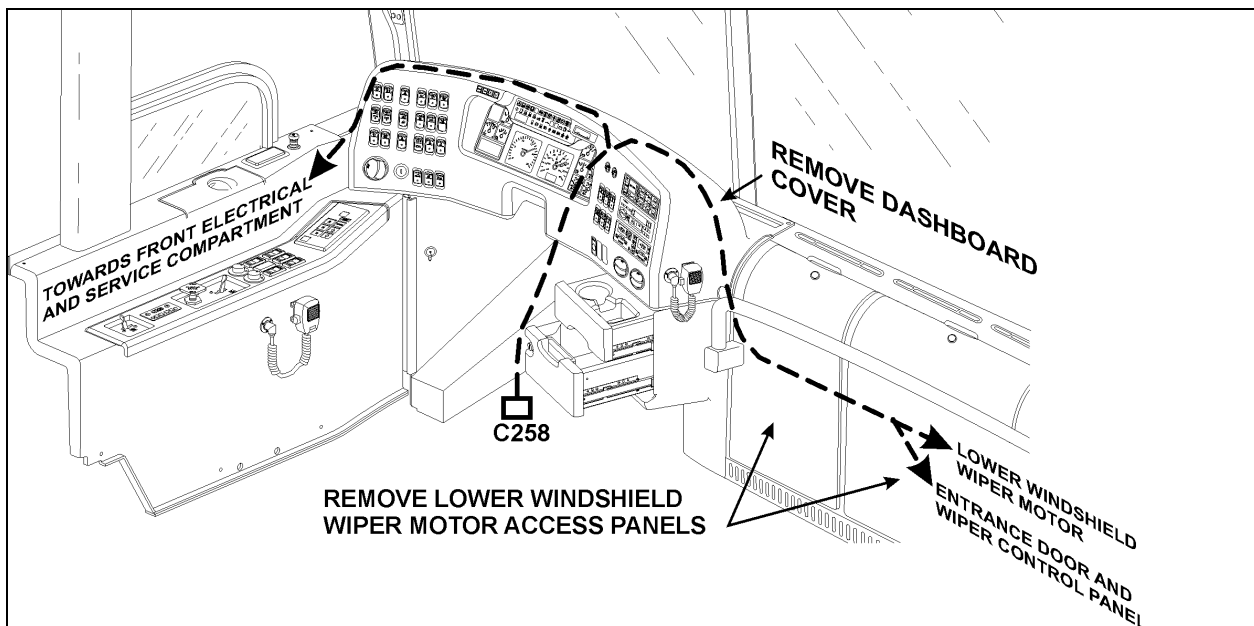

FIGURE 1: CABLE ROUTING
1. Remove dashboard cover and lower windshield wiper motor access panels (Refer to figure 1).
3. Route cable end labeled "wipers" through inside of the dashboard and behind the driver's HVAC unit, towards the lower windshield wiper motor and the entrance door and wiper control panel; route the other end towards the front electrical and service compartment. Make sure the harness is properly secured using nylon ties by following the necessary precautions (Refer to figure 1).